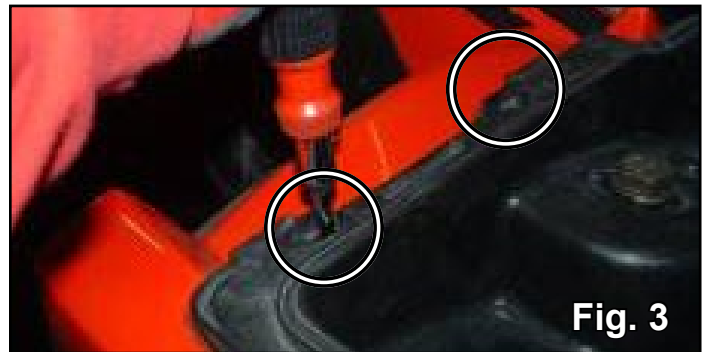

Fig. 3
4. Remove (4) Star Screws from top of Rack. See Fig. 3; Remove Rack.